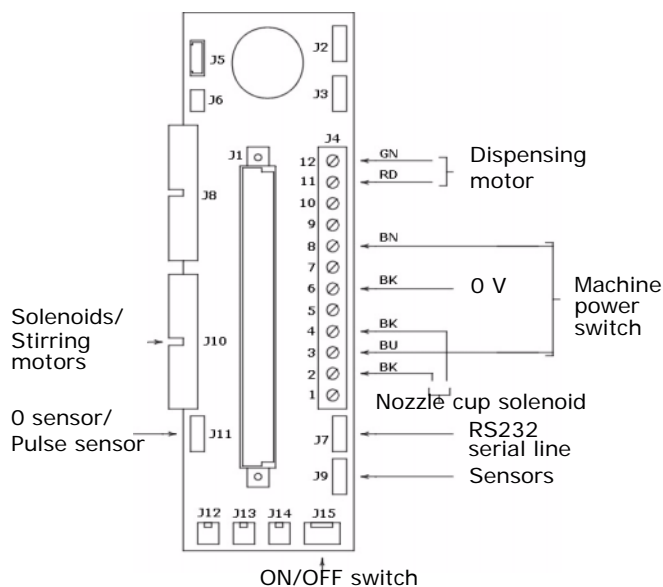

Figure 75: The connections of the connector board.
6. Replace the board with new one and reconnect the wires and cables. Make sure that the connections are done right, see figure 75.